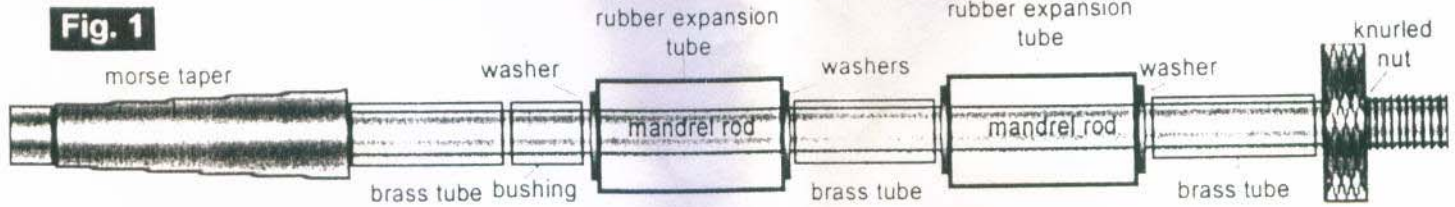

Fig. 1
- 1) Load large 3/4" OD rubber expansion bushings, metal bushings, washers and brass tubes as depicted. (Fig. 1)